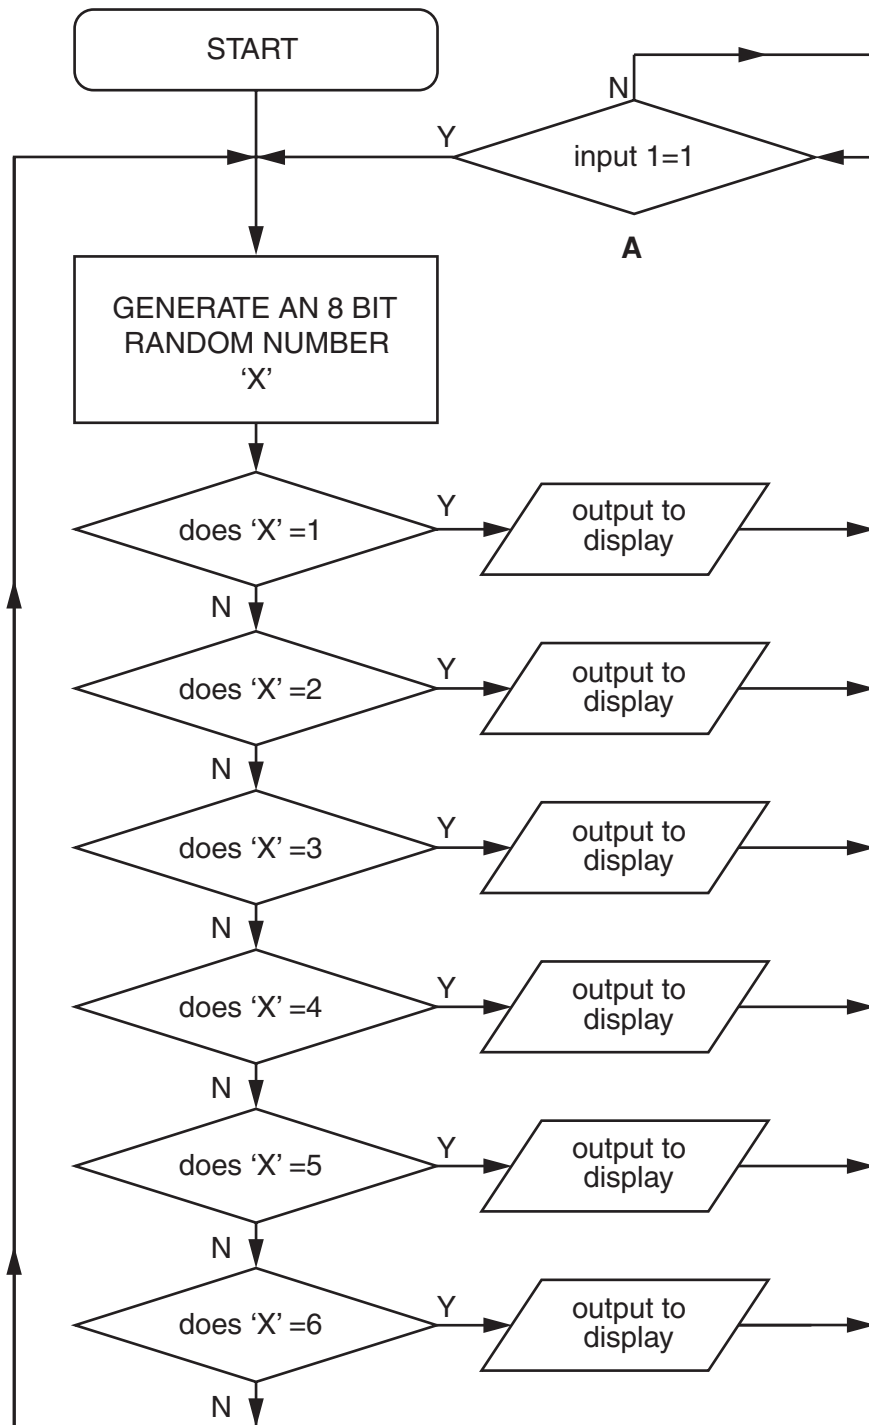

Fig. 12
- 5 Fig. 12 shows a flow diagram for a dice program. The program is to be developed and downloaded to a PIC microcontroller.